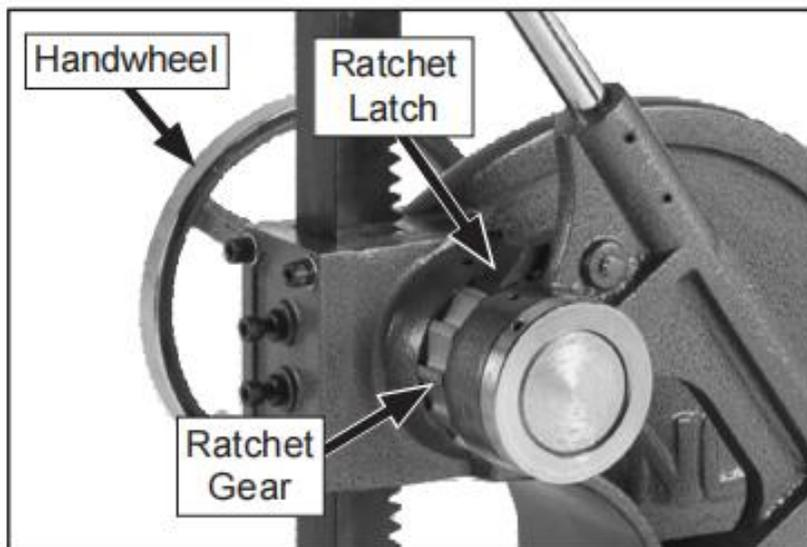

Figure 9. Ratchet latch components.
3. Use the handle to move the ram down a few times to check the adjustment, then lift the ratchet latch (see **Figure 9**) and raise the ram upward using a handwheel. If
1. To lower the ram, engage the ratchet to latch with the ratchet gear, as shown in Figure 9.